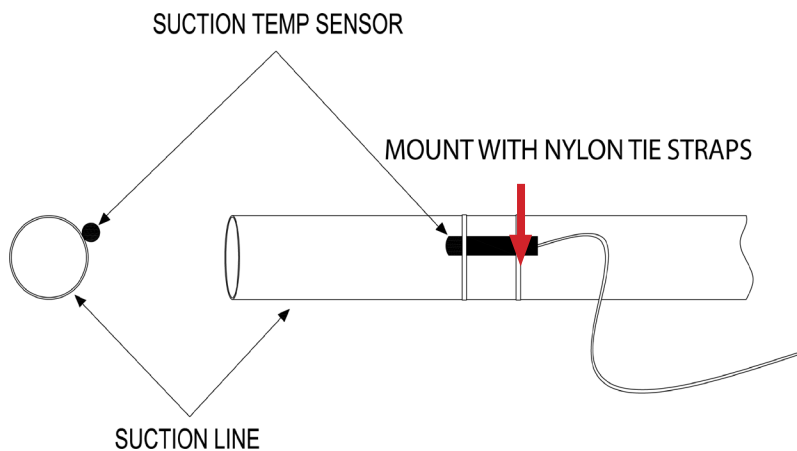

Figure 5
- b. Suction Temp Sensor (Figure 5) must be removed from the suction line prior to brazing. The sensor must be reinstalled on the suction line (10 or 2 o'clock position) after brazing is completed and the tubing has been allowed to cool down. Secure the Suction Temp thermistor to suction line as shown in Figure 5. After suction temp sensor is installed, suction line should be insulated, and the sensor should be covered with the insulation.